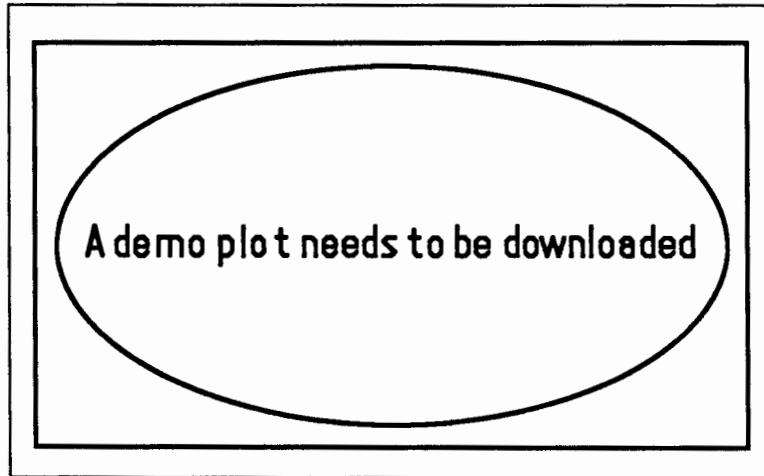
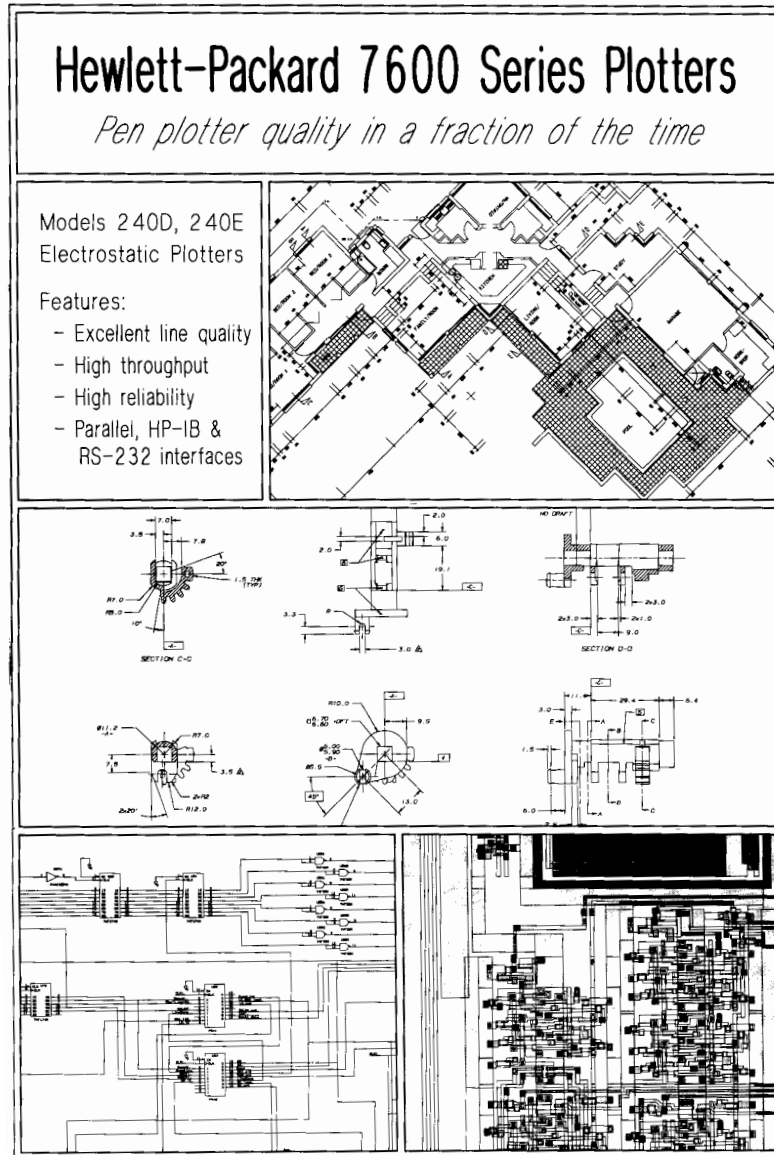

Figure 5-4. Back-up ROM Plot
Figure 5-5. Demonstration Plot
If the 40 Mbyte hard disk has been replaced or reformatted, the demonstration plot may not have been loaded. In this case, attempting to run the demonstration plot will cause the plotter to revert to code stored in ROM. This will generate the back-up plot illustrated in Figure 5-5. This plot still confirms that all major functions of the plotter are operational. The procedure for loading the demonstration plot is found immediately after paragraph "NO TAG" in this handbook.
- e. The back-up ROM plot is illustrated in Figure 5-4. The demonstration plot is illustrated in Figure 5-5.